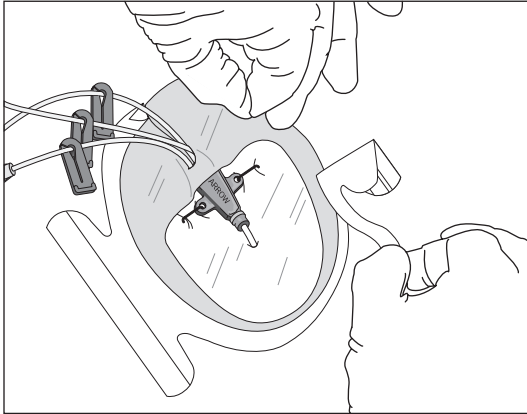

Figure 7
- Slowly remove frame while smoothing down dressing edges. Smooth dressing from center toward edges, use firm pressure to enhance adhesion (refer to Figure 7).